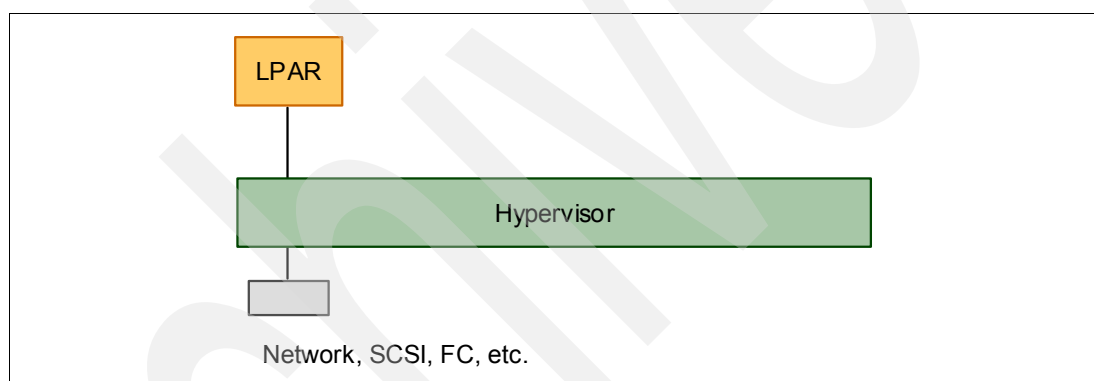
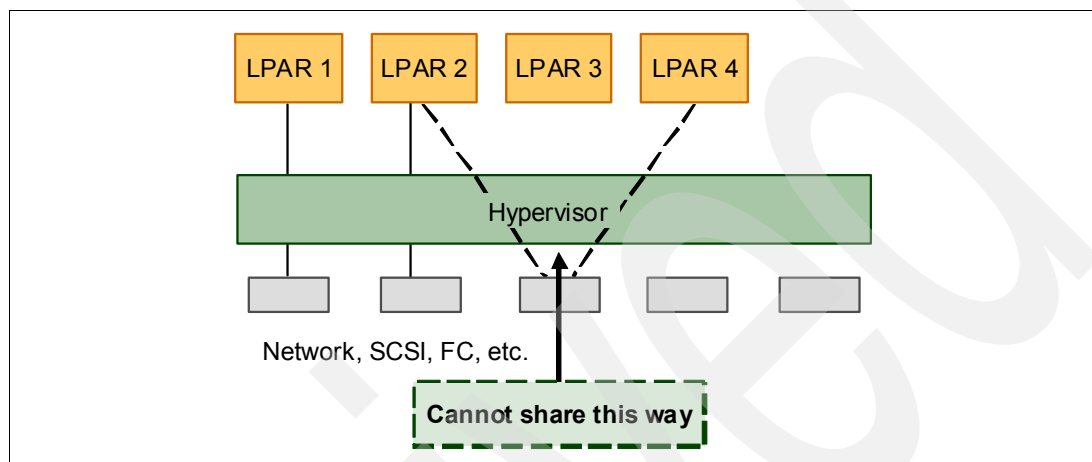
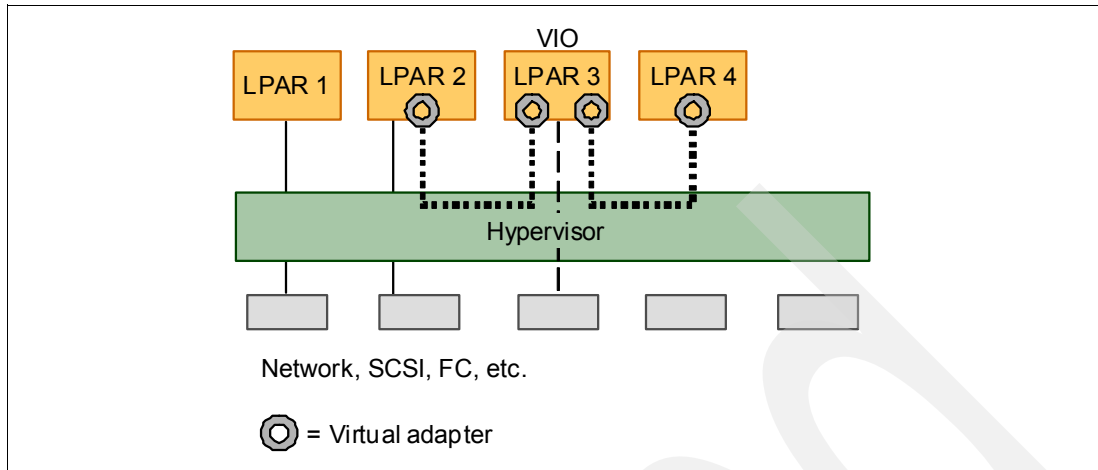

Figure 2-13 Single LPAR with access to network, SCSI, or FC
Figure 2-14 LPARs attempting to share access to Network, SCSI, or FC
Figure 2-15 LPARs sharing access to Network, SCSI, or FC using virtual SCSI via VSCSI adapter
You need to understand the relationships between LPARs, PowerVM™ devices, and other concepts before implementing cloud components on POWER. Figure 2-13 through Figure 2-15 on page 17 provide a progression from simple to advanced topics.
Figure 2-13 depicts an LPAR in relation to the Hypervisor and the network, SCSI, and FC with which the LPAR might need to communicate to perform I/O operations. In Figure 2-13, the LPAR presents a request to the Hypervisor, which in turn facilitates or performs the I/O operation on behalf of the LPAR. Note that LPARs cannot perform I/O directly to the device. The Hypervisor needs to facilitate direct I/O access to the device.
In contrast to Figure 2-13 on page 15, we add three more LPARs to our discussion, as shown in Figure 2-14. Note that LPAR 1 and 2 have the capacity to perform I/O operations to devices that are not shared. We show this capability by the solid lines from the LPARs to the Hypervisor and from the Hypervisor to the devices at the bottom of Figure 2-14. The dashed line represents LPAR 2 and LPAR 4 attempting to (directly) share a device. To facilitate this sharing, you must add an entity that supports the use of common or shared devices across LPARs. Figure 2-15 on page 17 shows this environment, in which LPAR 3 takes on the role of a Virtual I/O Server.
In Figure 2-15 on page 17, you see that LPAR 2 and LPAR 4 share access to a device through LPAR 3 (the VIO LPAR). The donut-shaped objects in Figure 2-15 on page 17 represent virtual SCSI adapters. The VSCSI adapters that are shown in LPAR 2 and LPAR 4 are referred to as *VSCSI client adapters*. The adapters in the VIO LPAR are called *VSCSI server adapters*.
- ▶ The requesting LPAR (LPAR 2 or LPAR 4 in Figure 2-15 on page 17) presents a request for input or output through the VSCSI client adapters, channeled through the Hypervisor. Note that the relationship between LPAR 2 and the device and the relationship between LPAR 4 and the device need to be defined. We discuss these points further in Chapter 3, “Installing and configuring components” on page 23. The relationship between the VIO LPAR and the actual device needs to be defined. We provide the appropriate details in Chapter 3, “Installing and configuring components” on page 23.
- ▶ When the device is not busy, the VIO server (LPAR 3 in Figure 2-15 on page 17) presents a request for input or output to the device via the Hypervisor.